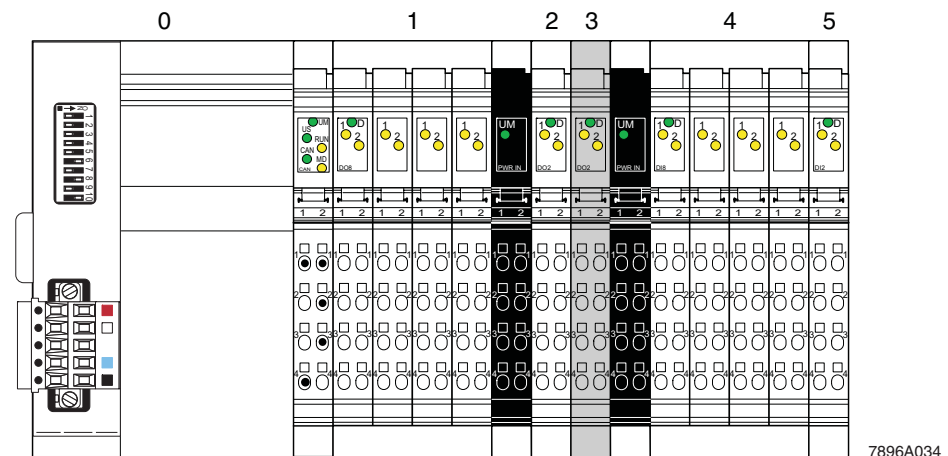

Figure 5-2 Example station for error localization
Diagnostic and status indicators clearly denote the location of errors. If an error is detected, the error is displayed at the station and the number of the device on which the error has occurred is reported to the control system. Figure 5-2 shows an Inline station with an error at module 3.
- 2 Read byte 5 (Inline Faulted Module Number). This byte value represents the location of the faulted module on the station. In our example, byte 5 would read the value of 3, thereby indicating that module number 3 is faulted, see Figure 5-2 on page 5-4. Bear in mind that device numbering on a CANopen Inline station starts with 0 (bus coupler) and continues right to number 63.
- 2 Read the Inline Faulted Module Object, Index 3102_{hex}. This value represents the peripheral fault location. For this example, the value will be 3, see Figure 5-2 on page 5-4. Bear in mind that device numbering on a CANopen Inline station starts with 0 (bus coupler) and continues right to number 63.